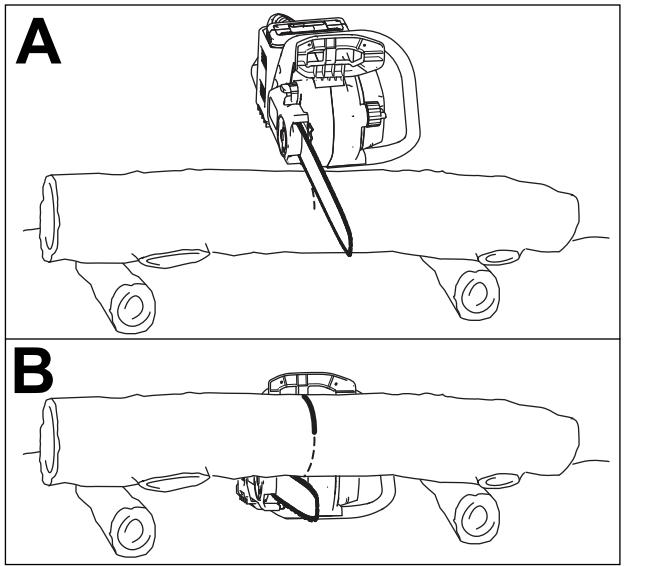

Figure 20
- If you are cutting branches from a fallen tree or cutting a log into lengths, support the log off the ground (preferably on a sawbuck); refer to Figure 20.